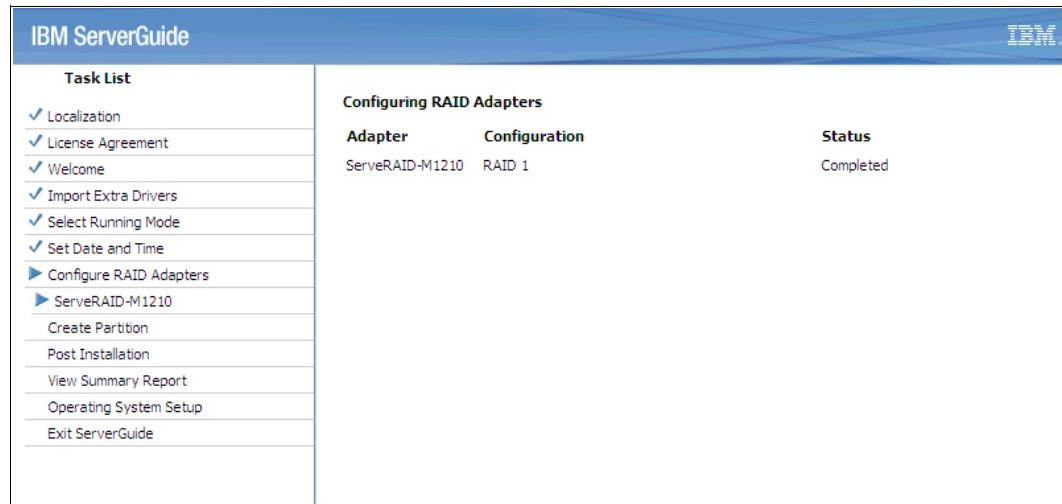

Figure 6-34 RAID confirmation panel
12.A confirmation window opens, indicating that the RAID configuration is complete (Figure 6-34). Click **Next**.